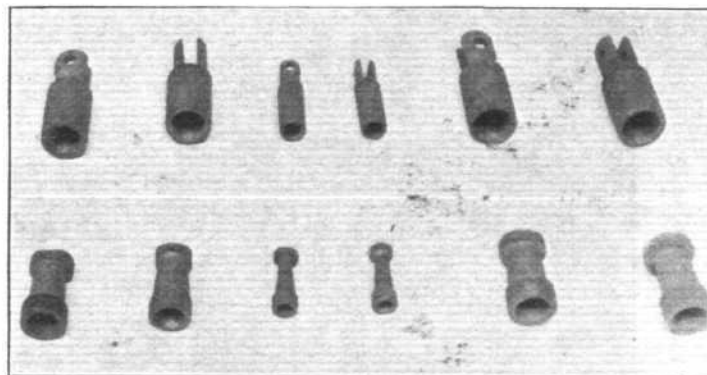

Fig. 29. Conical cable ends are used, the cable strands being splayed out and soldered with "Cazin."
**Cables and Cable Ends.**—Reference has been made in an earlier section of this paper to the special form of cable end fittings employed in R.101. These end fittings, which are used in several sizes and with arrangements for straining the cables and taking up slack, all have this in common, that they have one end formed with an internal cone (see Fig. 29) which receives the end of the stranded cable. In making up the cables with end fittings a clamp is fitted tightly around the cable, some 2 in. from where it is to be cut. After being cut off, the ends are splayed out and the cone ends slipped over, the strands being held tightly together while this is being done. The splayed-out end is